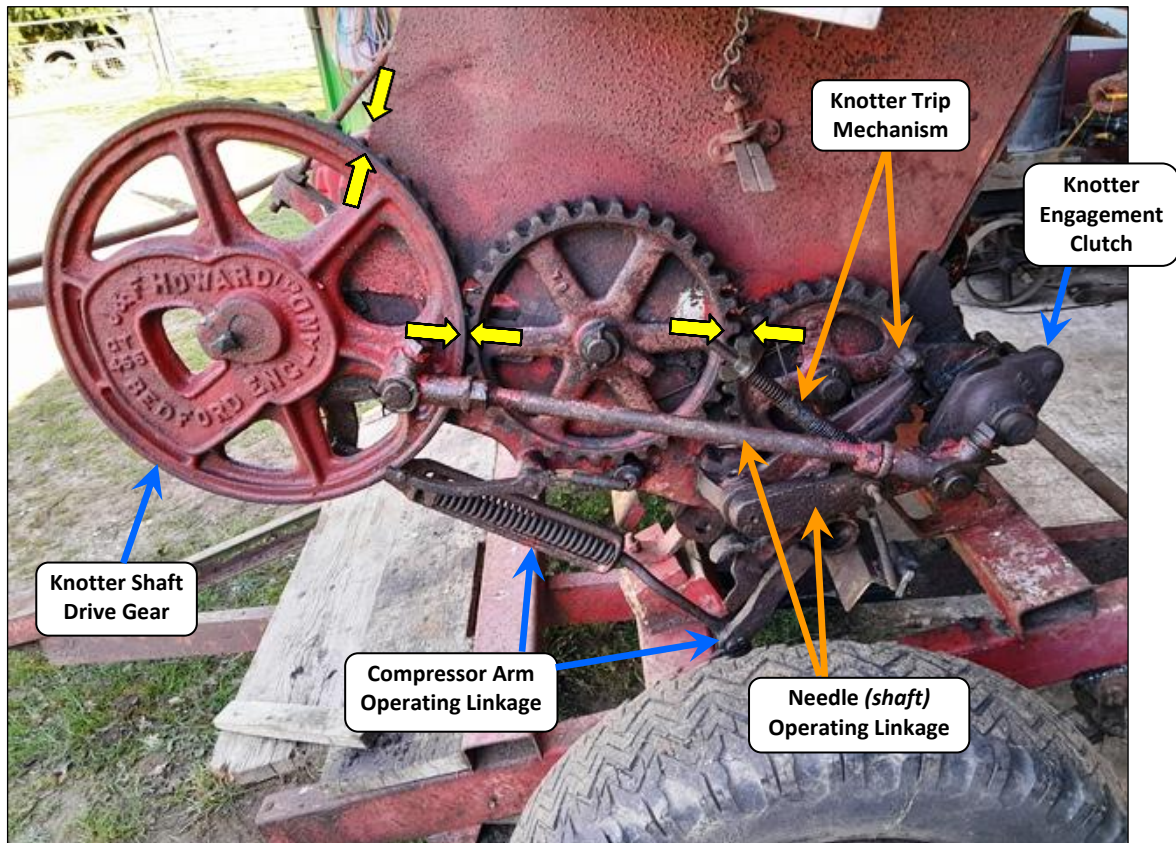

Fig.5.2 Howard trusser tying & discharge drive mechanism – Ruston & Hornsby machines are very similar
- Knotter (*shaft*) drive gears/sprockets & knotter trip mechanism (*when 'at-rest'*) (*Fig.5.2*)
- Needle (*shaft*) crank arm & connecting rod (*attaches to knotter shaft drive gear/sprocket*) (*Fig.5.2*)
- Relative to each other and also to parts of the machine which aren't likely to be disturbed during the work (*Fig.5.2*)
- Timing marks (*found on each gear*) should coincide with each other (*Fig.5.2*)